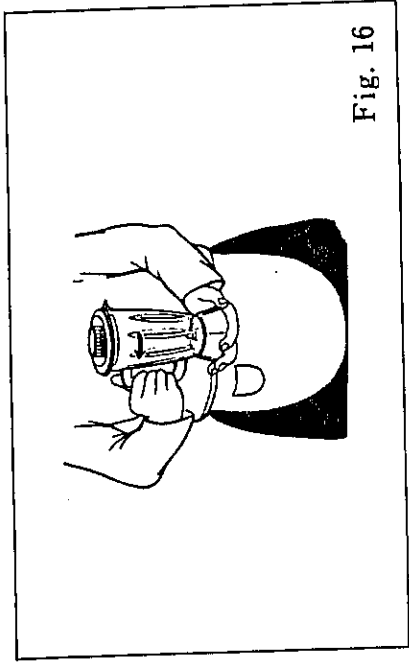

Fig. 16
- 3) To remove the blender jar and base, turn the jar in the direction of the arrow (Fig. 16).